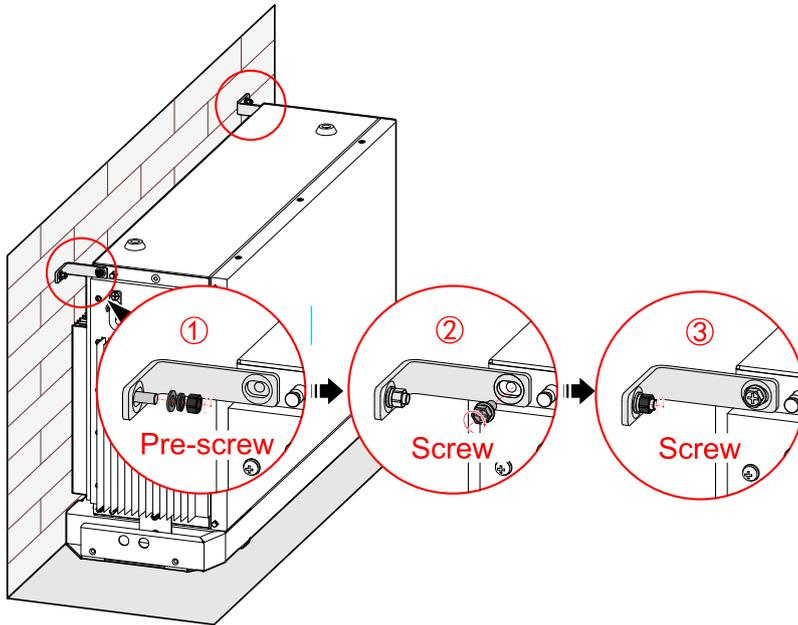

Figure3-21 Fix the wall bracket (a)
2. Fix the wall bracket (a) of bottom battery pack, as shown in Figure3-21.